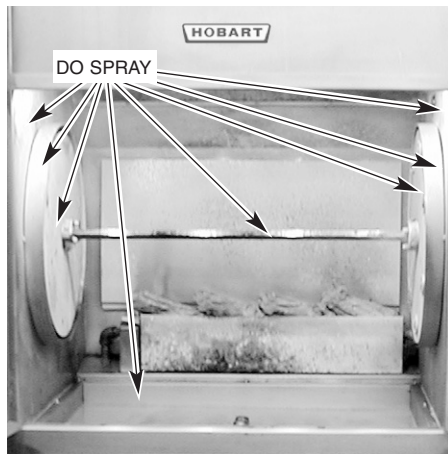

Fig. 11
- Spray noncooking components such as the interior walls, drum surfaces and wire rack with a nonstick product (Figs. 11, 12).